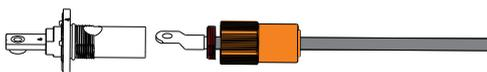

Figure 4.2-4
Step3: Insert the wire lugs of the pressed wire into the terminal sockets on the machine, as shown in Figure 4.2-4.